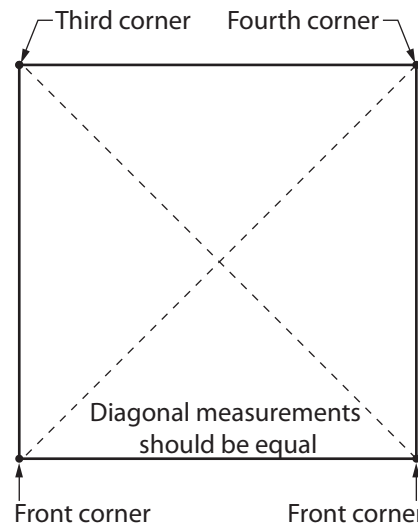

Figure 4 — Measuring diagonals to confirm locations of third and fourth corners
5. Measure the other diagonal. If the layout is square, the diagonals will be within 1 to 2 mm of each other (Figure 4).